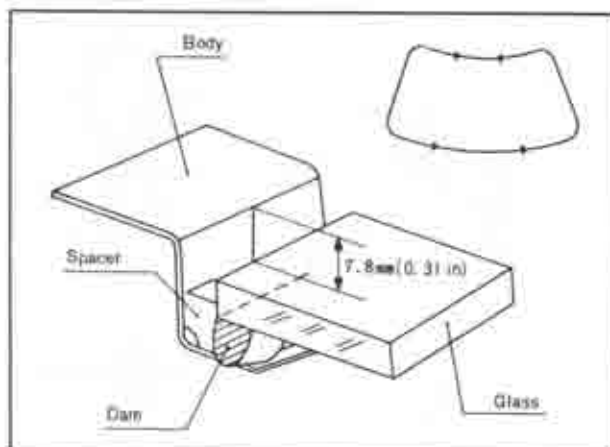

Fig. 14-38 Adjusting clearance
4. When installing the glass, 7.8 mm (0.31 in) clearance should exist between the body and the glass. Check the clearance at the four portions shown in Fig. 14-38.